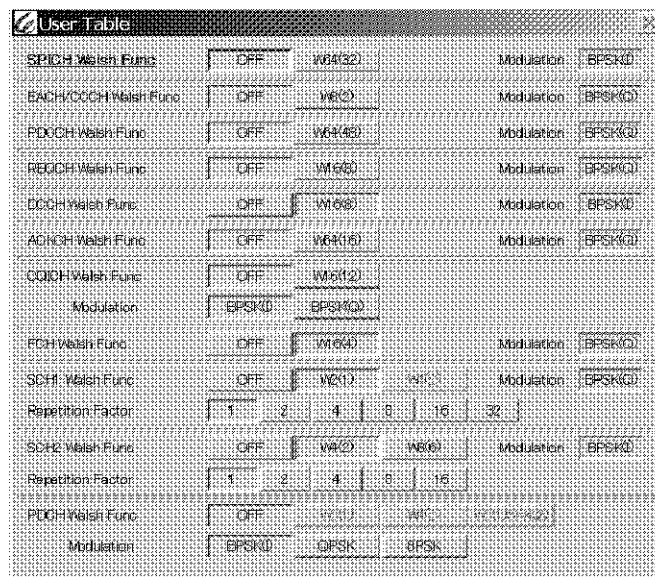

Figure A-6 Setting Example of the [User Table] Dialog Box
1. Set the [User Table] dialog box as Figure A-6. (The PICH settings are not required because PICH is always set in this instrument.)